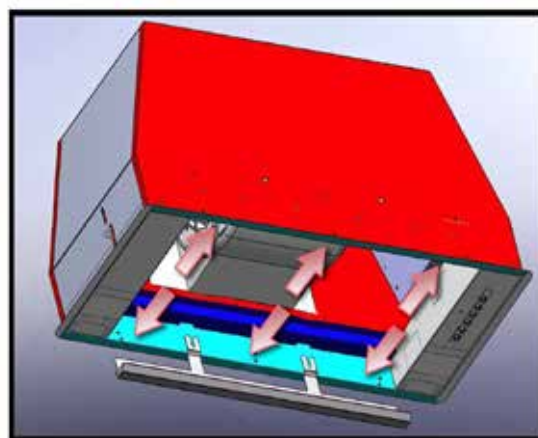

Fig.7
3. Insert the 25mm screws provided into the holes inside the rangehood (Fig.7) to fix it to cabinetry.
To remove the rangehood from the cabinet, remove the fixing screws (Fig.7) using a screwdriver, and remove the grease filters (Fig.4).